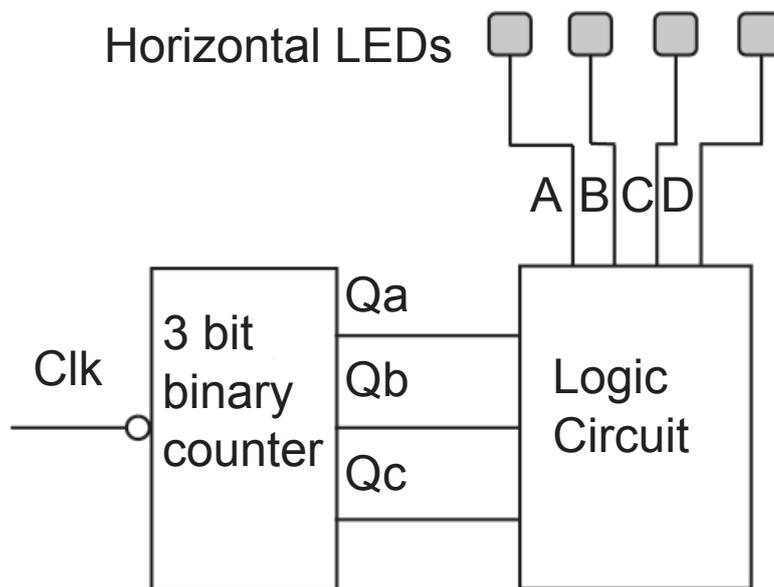

Fig. 3
- (d) The display for the baggage weighing system has a row of four coloured LEDs, A, B, C and D which are arranged as shown in **Fig. 3**. The LEDs flash with a repeating sequence controlled by the outputs from a logic circuit which in turn is controlled by a binary counter. As the outputs from the counter Qa, Qb and Qc are incremented from 000 to 111 the LEDs are to be switched on in the following sequence, A only, B only, C only, D only, C only, B only, A only, all off.